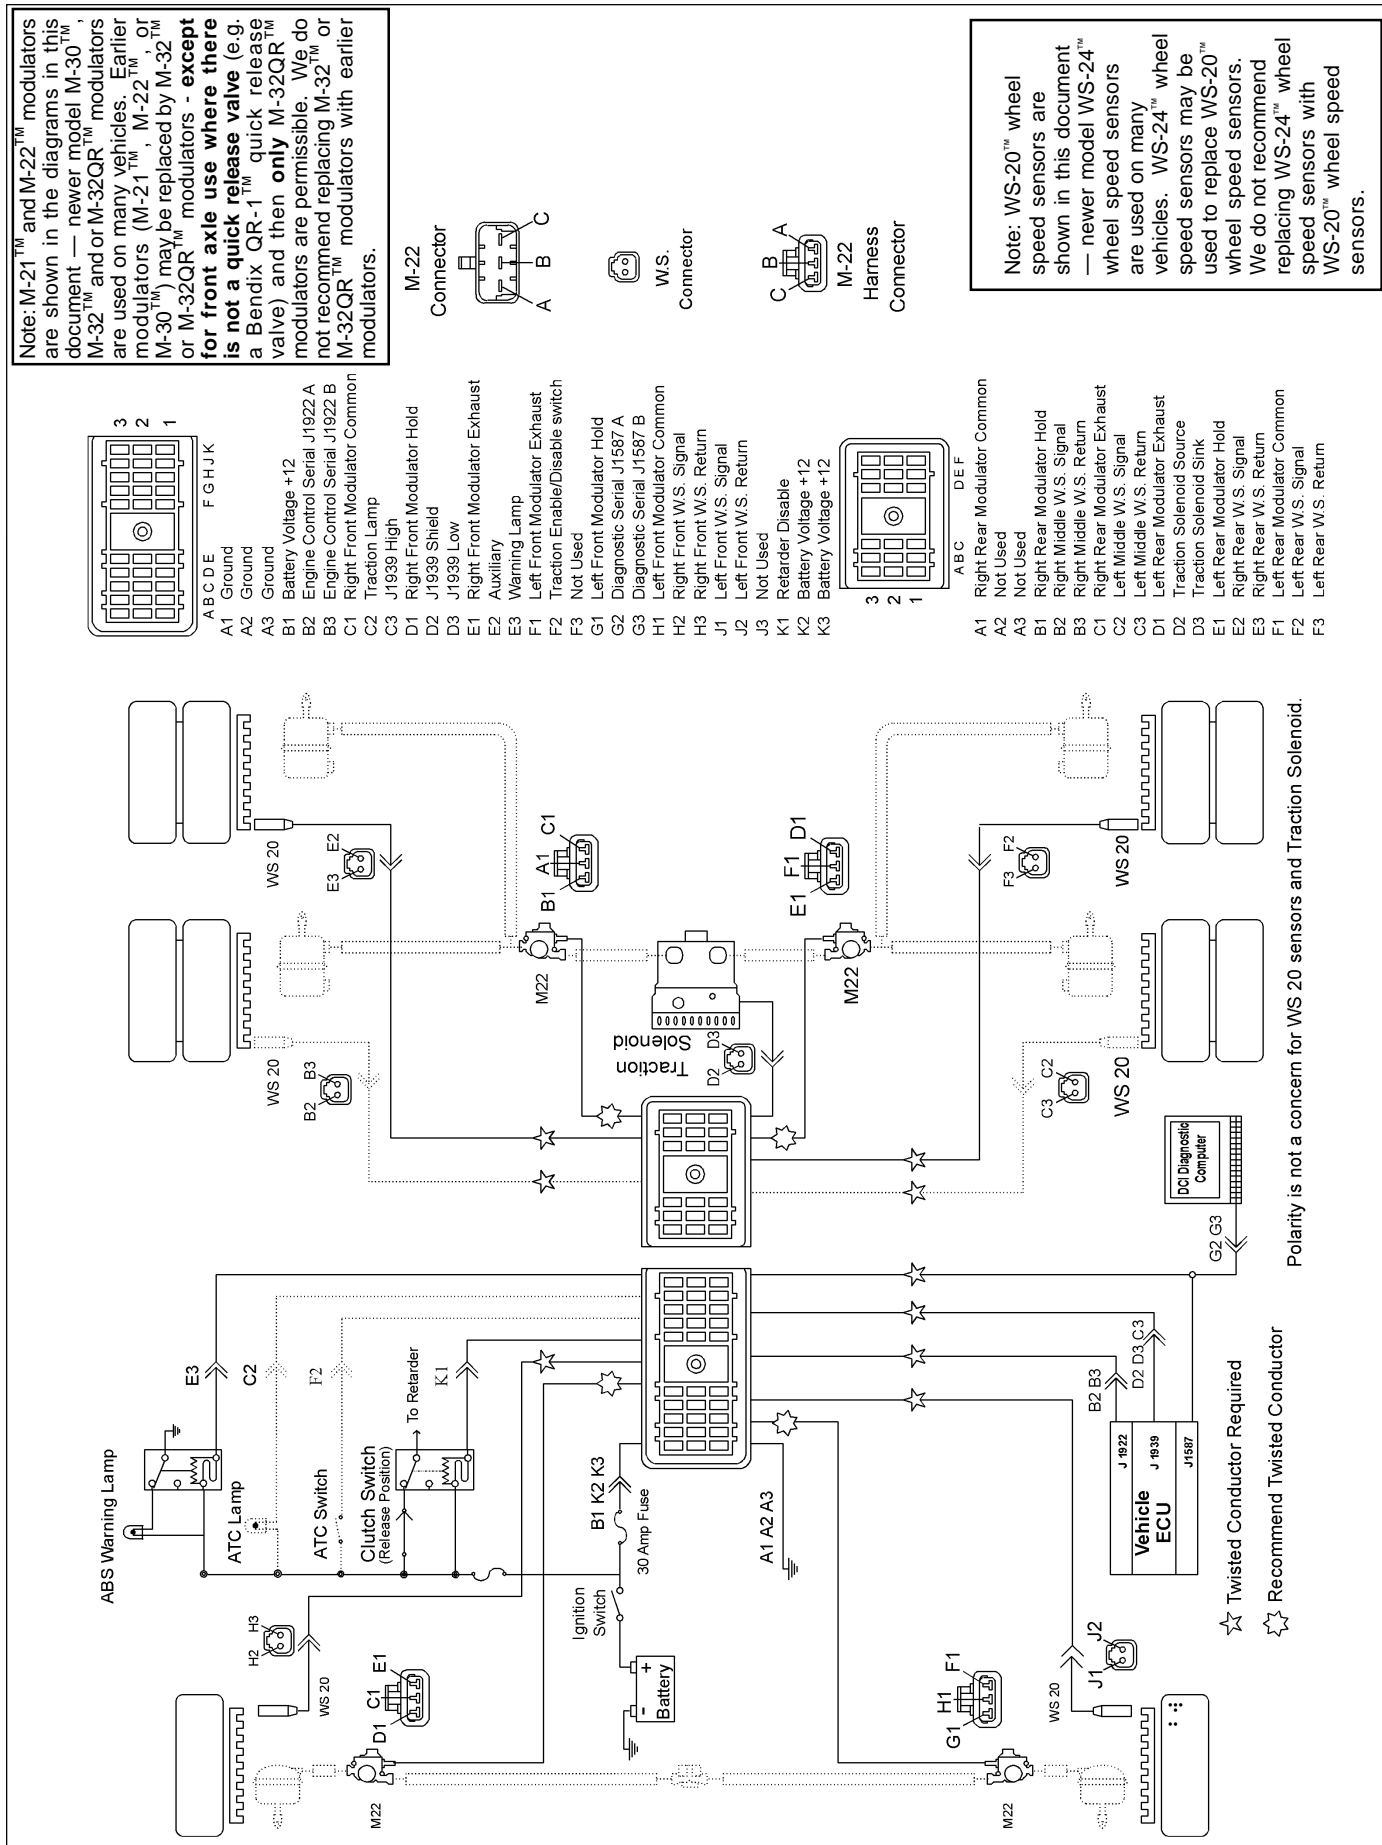

FIGURE 5 - EC-17™ ANTILOCK TRACTION CONTROLLER SYSTEM WIRING SCHEMATIC
The EC-17™ controller receives information from several components in the antilock system and, based on these inputs, issues commands or delivers information. Some portions of the EC-17™ controller both receive and deliver commands and information. (See Figure 5.)
- **Modulators** - The Bendix® M-22™ modulator, is the means by which the EC-17™ controller modifies driver applied air pressure to the service brakes. The modulator is an electrically controlled air valve located near the service actuator(s) it controls. It is the last valve that air passes through on its way to the brake actuator. A wiring harness connects the modulator to the EC-17™ antilock controller. Solenoid valves contained in the modulator provide the electrical interface between the EC-17™ controller electronics and the air brake system. The EC-17™ controller is able to simultaneously and independently control four individual modulator assemblies. When vehicle power is supplied to the EC-17™ controller, a modulator “chuff” test is performed. When the brake pedal is depressed and the ECU is powered via the ignition switch, the patented modulator “Chuff” test is audible. A properly wired modulator will exhaust air with a sharp (or crisp) audible “Chuff”. On ECU’s manufactured prior to mid-year 2000, the hold solenoid of a modulator is energized three times longer than an exhaust solenoid while the “Chuff” test is being executed. If the modulator hold and exhaust solenoid wires are reversed the audible “Chuff” is not crisp because of the extended exhaust energization. After mid-year 2000, the hold solenoid of the modulator is energized twice while the exhaust solenoid is energized once. If the modulator hold and exhaust solenoid wires are reversed the modulator will exhaust twice during a “Chuff”. The vehicle modulators will “Chuff” in the sequence: right front, left front, right rear, left rear. It will execute this exhaust sequence twice, for a total of eight exhausts. Both patented audible “Chuff” tests help the mechanic verify when the modulators are functional and connected correctly without needing additional test equipment. If an issue is detected with the modulators, proceed with modulator troubleshooting or compare the modulator wiring to the vehicle wiring schematic found in Figure 5.
The wires that carry information and power into and out of the EC-17™ controller are generally grouped and terminate at a connector. The wire groups or wire harnesses along with the connectors are most often specified and/or supplied by the vehicle manufacturer. The connectors used on the EC-17™ controller are illustrated in Figure 5. The wiring harnesses and connectors are weather resistant and the wires that enter the connector are sealed to the connector. The wire gauge used in the wire harnesses is specific to the task performed.